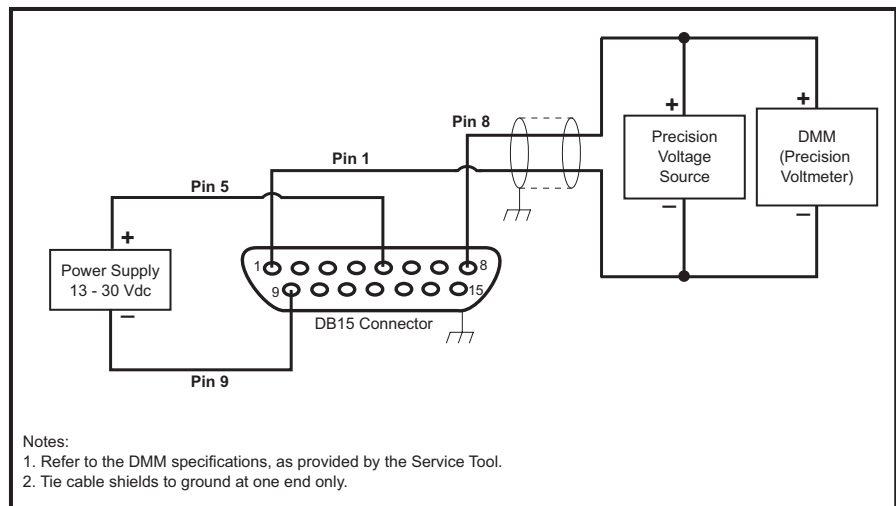

Figure 7-1 Setup for Calibrating to a Voltage Setpoint
Prior to using the Service Tool to calibrate the device input, you must connect a digital multimeter (DMM) to the device's setpoint signal, which you will use to verify the actual signal level. Figures 7-1 and 7-2 show how to set up the DMM for the available input types.
3. Make sure that the DMM is set up as instructed in Step 1 of the wizard (and shown in Figure 7-1 or 7-2), then click the **Next** button to advance to Step 2 of the wizard.